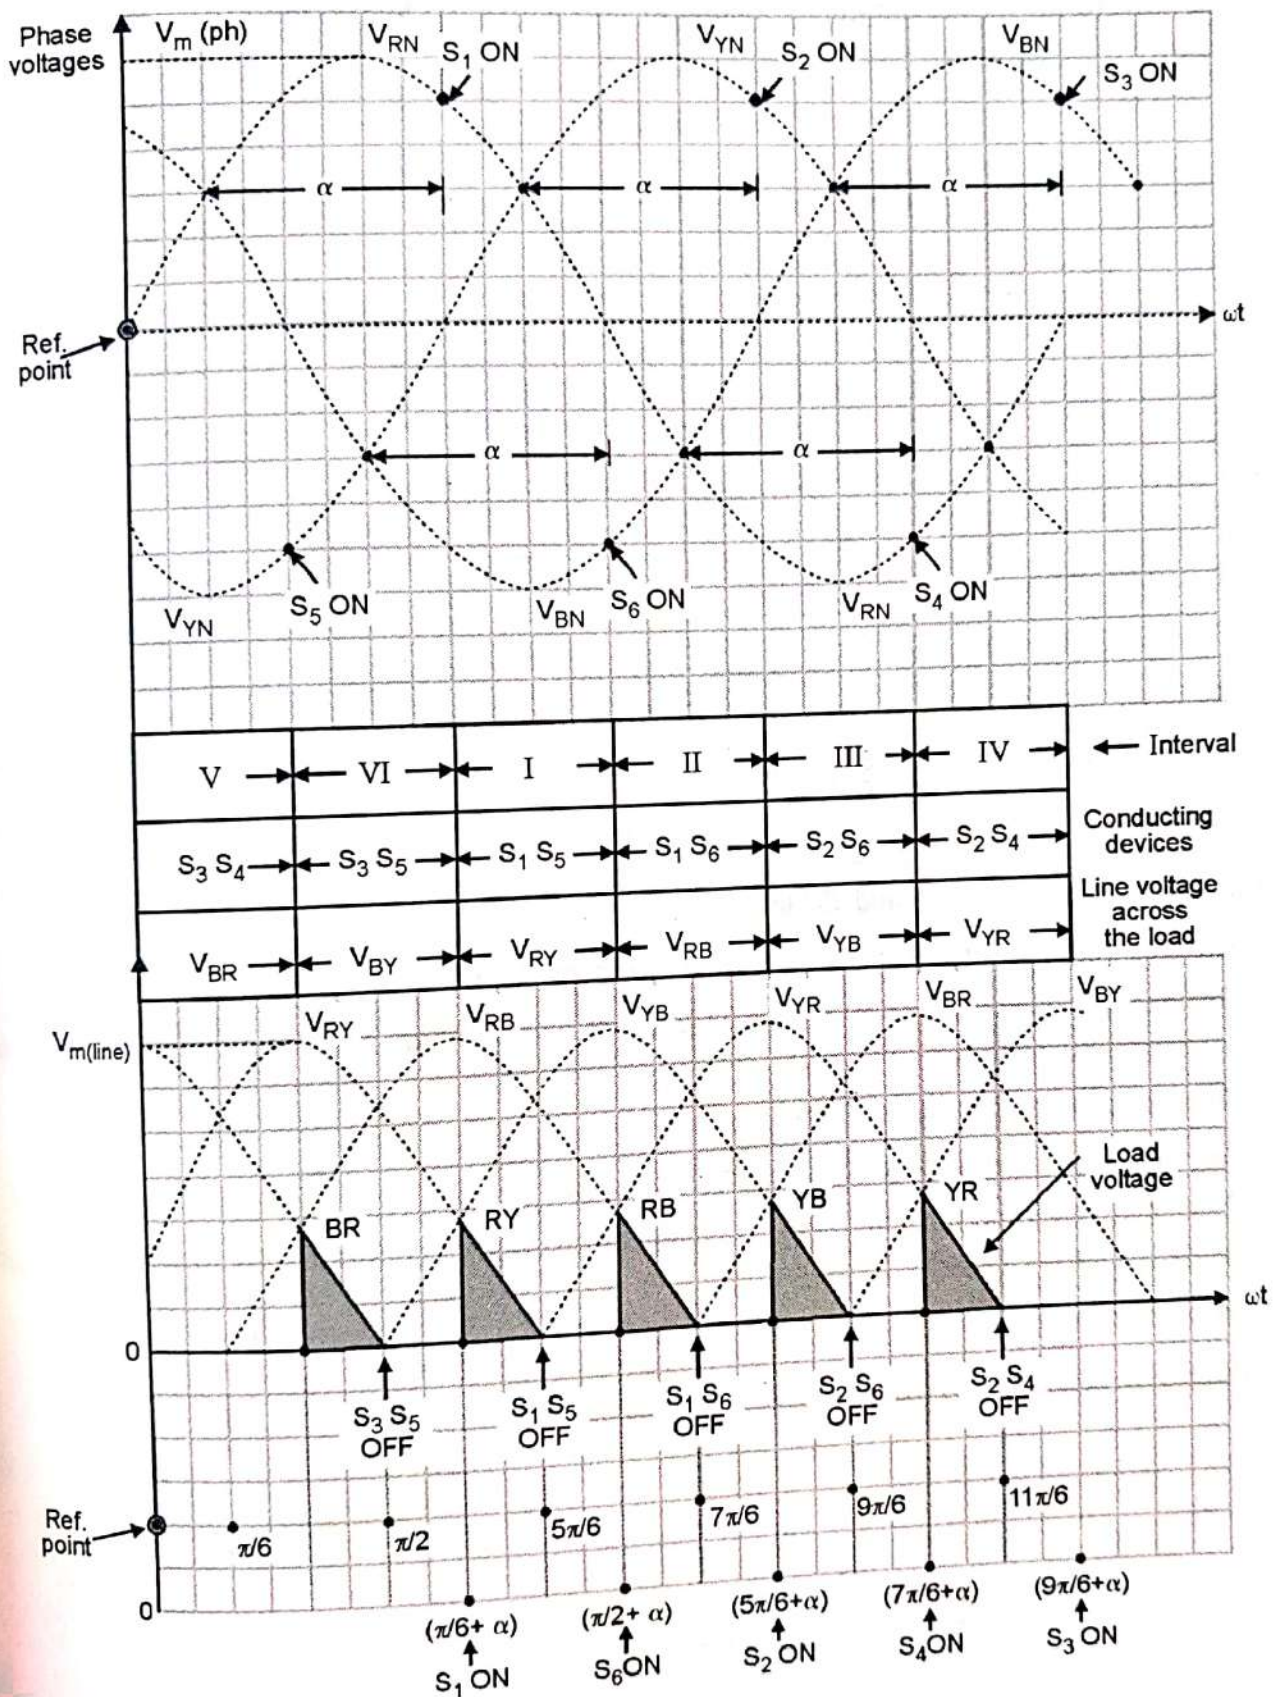

Fig. 8.7.9 : Load voltage for a full converter with a resistive load (discontinuous conduction)
- For $\alpha > 60^\circ$, the load current becomes discontinuous, as the load voltage reaches a zero as shown in Fig. 8.7.9. This will turn off the conducting pair of thyristors.
- The waveforms for discontinuous conduction are shown in Fig. 8.7.9.
The conclusions from Fig. 8.7.9 and Table 8.7.3 are :
Refer Fig. 8.7.9. The average load voltage is given by,